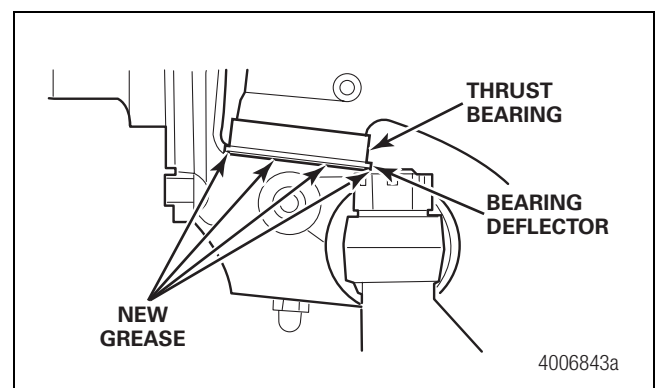

Figure 2.29
6. Apply lubricant into the bottom grease fitting until new grease appears from under the lower lip of the bearing deflector. Figure 2.29.